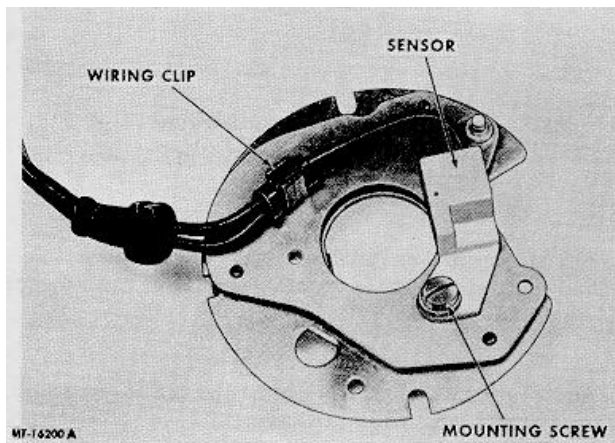

Fig. 18 Removing Sensor
- Remove sensor mounting screw (Fig. 18). Disengage wiring clip from plate and remove sensor.